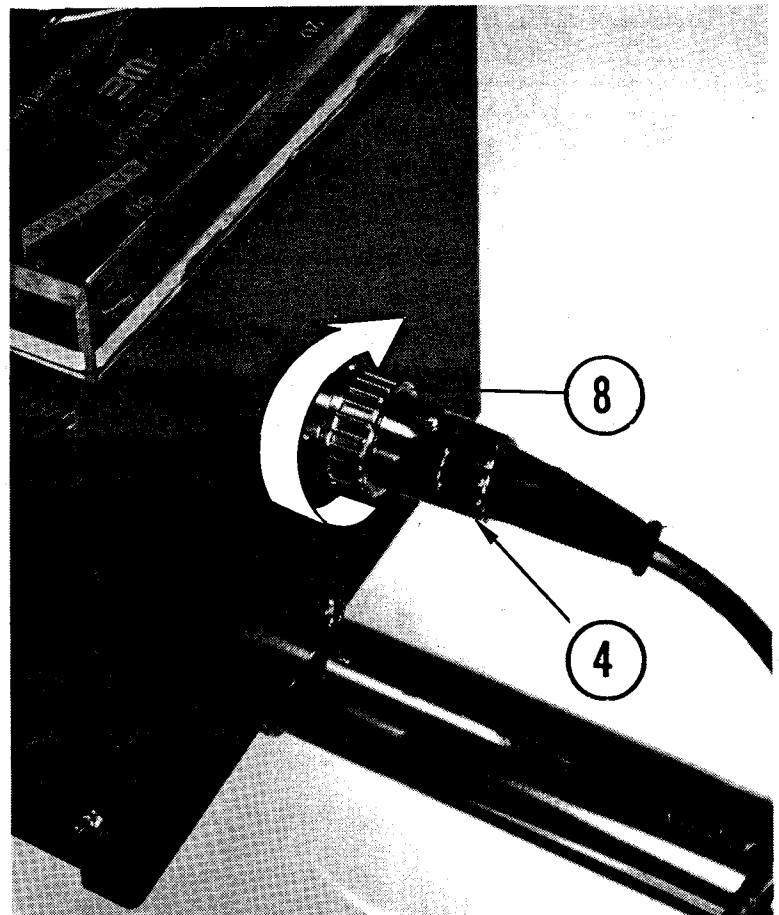

Figure 5
D. With Twistlock Connector (4) firmly seated, turn Locking Ring (8) to the RIGHT as shown in Figure 5.